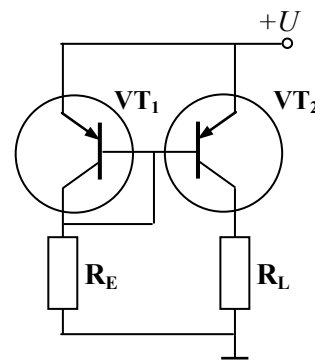

Fig. 2.25
**Current reflector.** The circuit shown in Fig. 2.25 is called a *current reflector* in the case of the full identity of  $T_1$  and  $T_2$  parameters.  $T_1$  is connected as a diode. Thanks to the joined bases, the voltages  $U_{BE}$  are equal, therefore